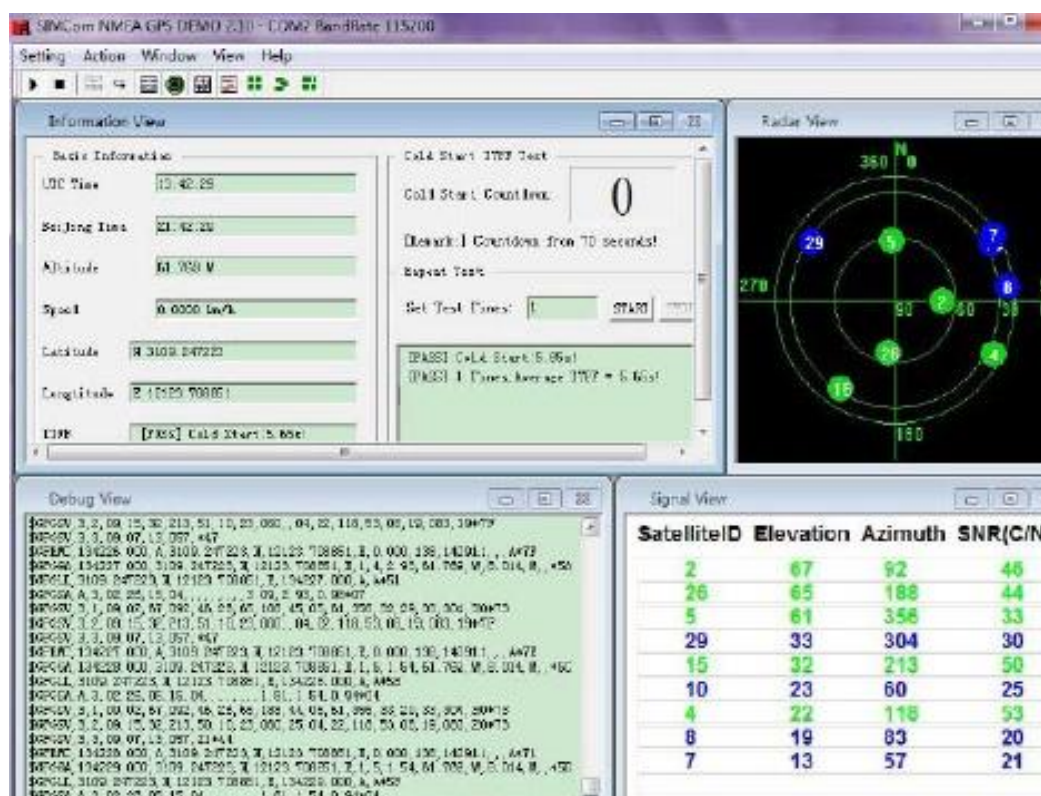

Figure 8: Checking GPS information
- ② Open corresponding port: setting->port Setting, and set the port and Baud rate: 115200 (If the Baud rate of the module is modified to a certain value by sending AT+CGPSIPR command, the modified Baud rate should be used in here).
- ③ Select Action->run. Then, you can see the relative GPS information, as Figure 8 shows.